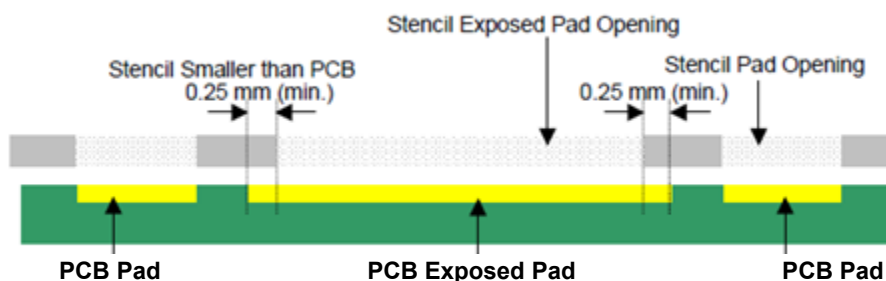

Figure 19. Reduced Solder Stencil Aperture for Exposed Pad
- On DFN/QFN with exposed pads, the EP stencil aperture openings should be 0.25 mm smaller than the copper pads on PCB, as shown in **Figure 19**. This will allow for proper registration of the stencil to the pad pattern.